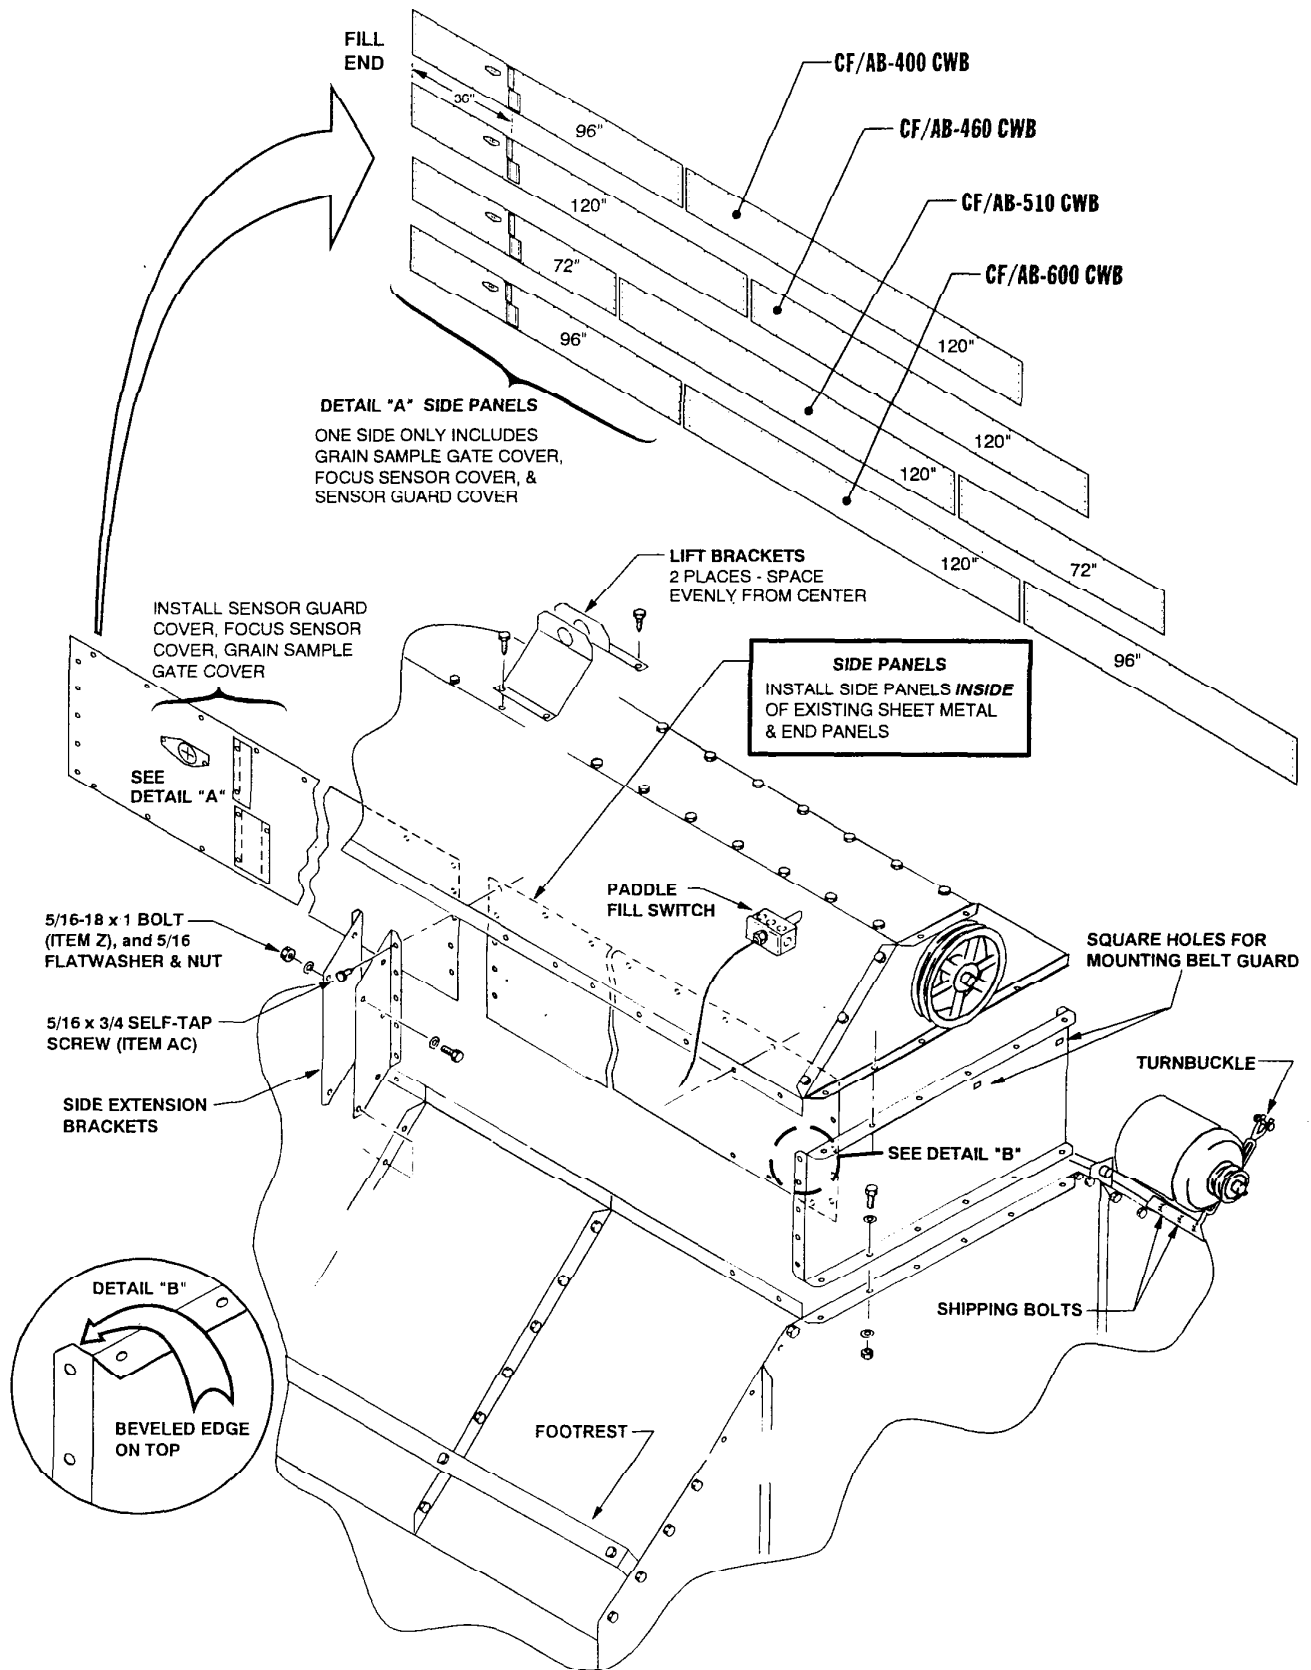

FIG. 2 GENERAL INSTALLATION VIEW
7. Install side extension supports where the side extension panels join. Each pair of supports is bolted together on both sides of the sheet flanges, using 5/16-18 x 1" bolts, nuts, and flatwashers. Use 5/16 x 3/4 self-tapping screws (item AC) to attach supports to side panels (see Fig. 2 for illustration).